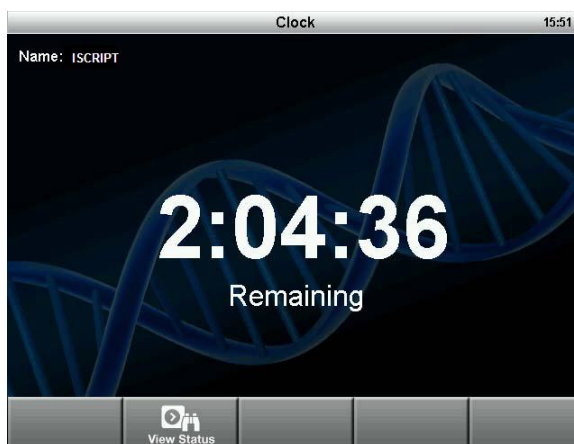

Figure 18. The Clock screen.
- **Clock**— a large display of the time remaining for convenient monitoring (Figure 18)